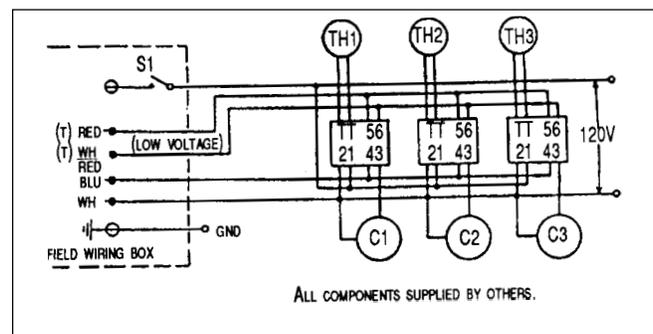

Figure 21. Zoning with Circulators
4. Multi-Zone/ Multi-Relay-Circulator Installations: Multiple circulators must not exceed 5 amps when connected to blue wire. Blue wire must be used on all HW series (see Figure 21).